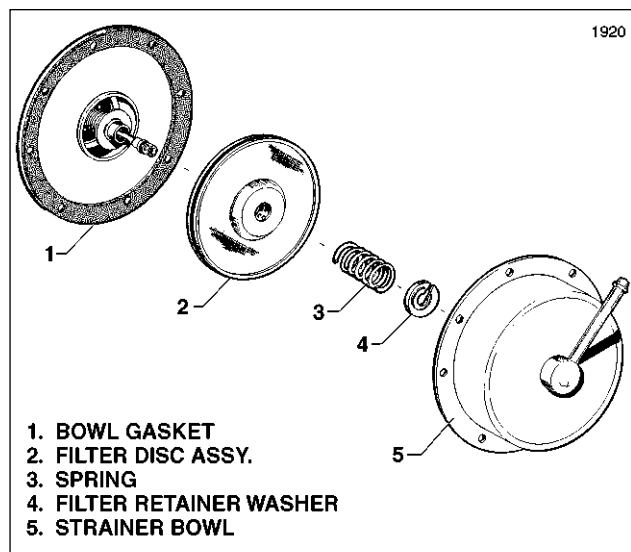

Figure 8-14. Fuel Strainer Disassembled,
- d. Remove filter disc assembly from center stem by compressing filter retainer spring and removing filter retainer washer. (Refer to Figure 8-14.)